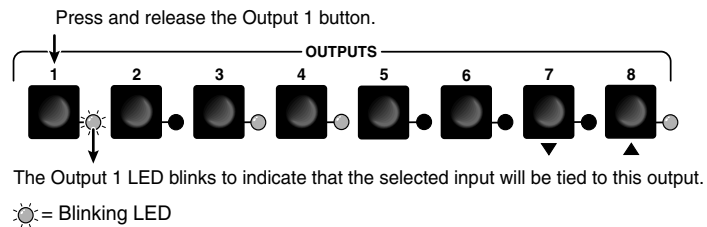

Figure 3-10 — Select the output
3. Press and release the Output 1 button (figure 3-10).